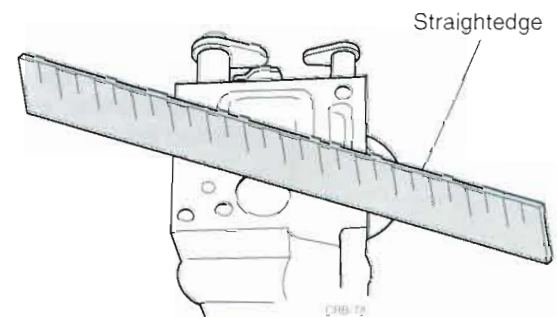

Figure 3.21 Inspecting the Pump Body Mating Surface.
- Use a straightedge to check the pump body mating surfaces (Figure 3.21).